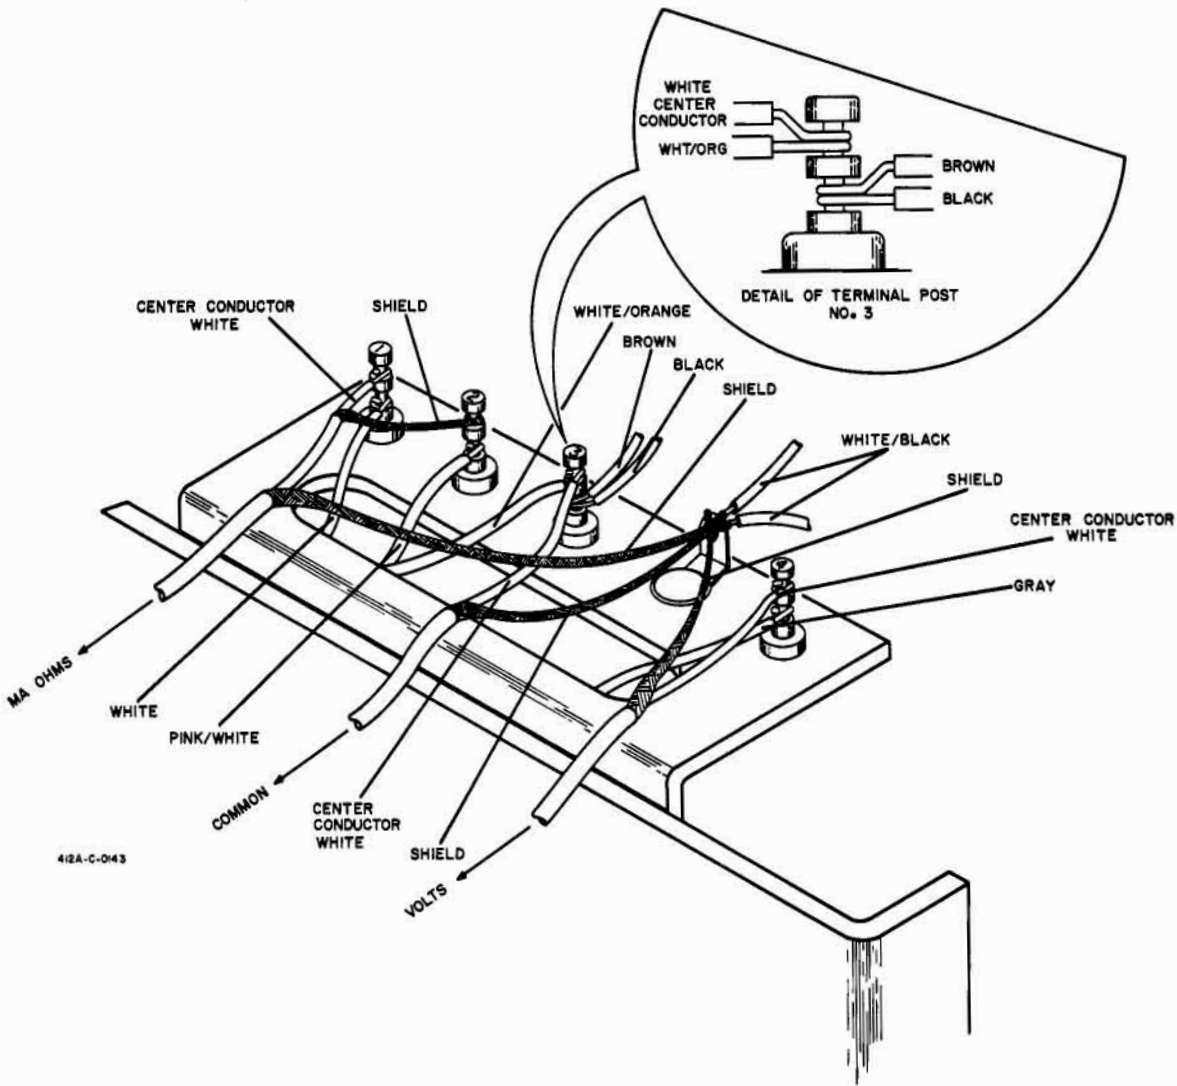

Figure 1
3. Unsolder all wires from the tie point bracket located on main chassis where the input cables enter the instrument (see Figure 1).